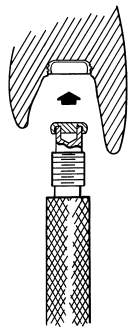
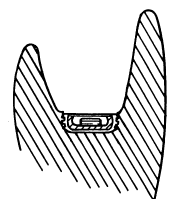

Fig. 9
Fig. 10
- The Locator Male Seating Tool (contained in Locator Core Tool, Zest order #8393) is used to firmly push a Locator Replacement Male into the metal Denture Cap. (Fig. 9) The replacement male must seat securely into place, level with the rim of the cap. (Fig. 10)